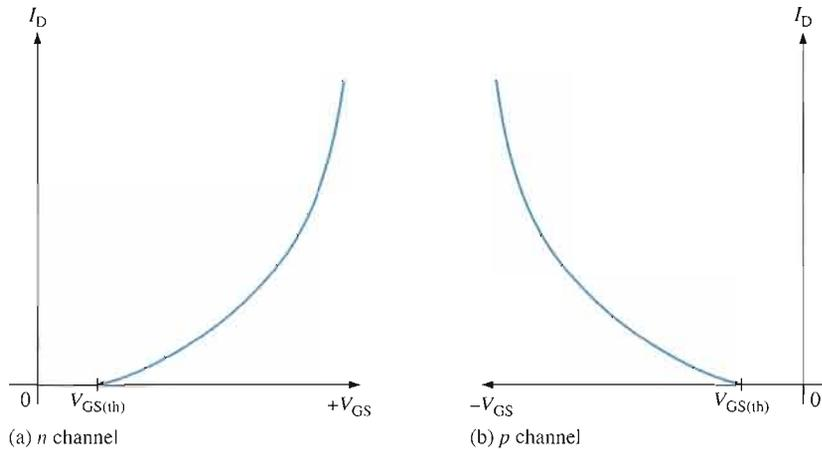

FIGURE 7–40
As previously discussed, the D-MOSFET can operate with either positive or negative gate voltages. This is indicated on the general transfer characteristic curves in Figure 7–39 for both  $n$ -channel and  $p$ -channel MOSFETs. The point on the curves where  $V_{GS} = 0$  corresponds to  $I_{DSS}$ . The point where  $I_D = 0$  corresponds to  $V_{GS(off)}$ . As with the JFET,  $V_{GS(off)} = -V_p$ .
► **FIGURE 7–39**
The E-MOSFET uses only channel enhancement. Therefore, an  $n$ -channel device requires a positive gate-to-source voltage, and a  $p$ -channel device requires a negative gate-to-source voltage. Figure 7–40 shows the general transfer characteristic curves for both types of E-MOSFETs. As you can see, there is no drain current when  $V_{GS} = 0$ . Therefore, the E-MOSFET does not have a significant  $I_{DSS}$  parameter, as do the JFET and the D-MOSFET. Notice also that there is ideally no drain current until  $V_{GS}$  reaches a certain nonzero value called the *threshold voltage*,  $V_{GS(th)}$ .
The constant  $K$  depends on the particular MOSFET and can be determined from the data sheet by taking the specified value of  $I_D$ , called  $I_{D(on)}$ , at the given value of  $V_{GS}$  and substituting the values into Equation 7–4. A typical E-MOSFET data sheet is given in Figure 7–41.
The data sheet in Figure 7–41 for a 2N7008 E-MOSFET gives  $I_{D(on)} = 500$  mA (minimum) at  $V_{GS} = 10$  V and  $V_{GS(th)} = 1$  V. Determine the drain current for  $V_{GS} = 5$  V.